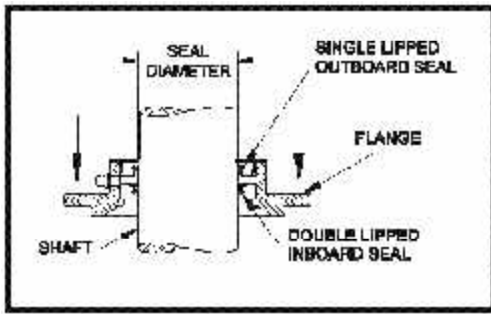

Figure 6.2.5—Placement of Seal Carrier Assembly onto Shaft
4. When the seal carrier is piloted on the shaft pilot, seat the seal carrier by slowly pressing down on the flange; reference Figure 6.2.5.